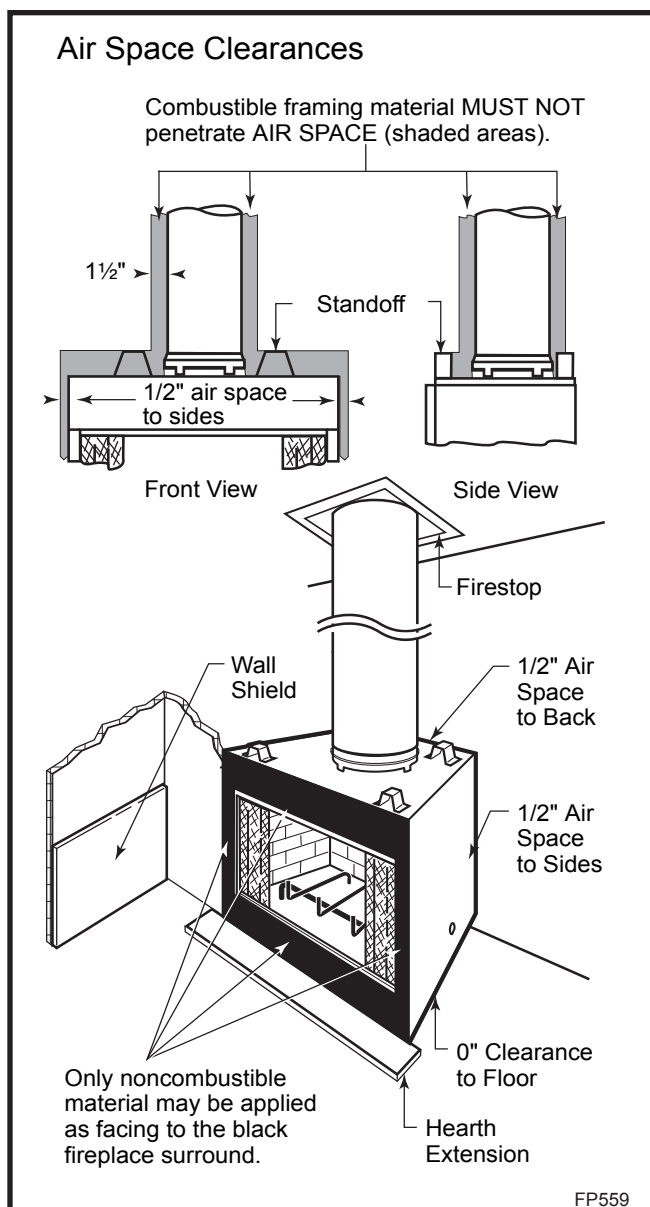

Fig. 20 Minimum clearances to combustibles.
**CAUTION:** All joints between the finished wall and the fireplace surround (top/sides) must be sealed with noncombustible material to prevent cold air leakage into the room. Only noncombustible material may be applied to the facing of the fireplace surround. (Black painted area) (Fig. 20)
The special wall shield design described in Figure 20 is an alternate method of adding protection to side walls. Rt must = 1.85 minimum.